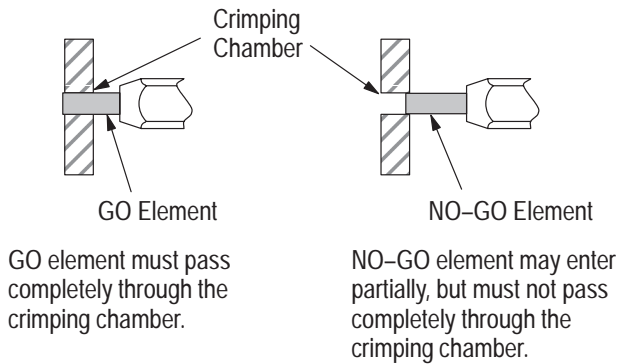

Figure 4
The die assembly is inspected before shipment. AMP recommends that the die assembly be inspected immediately upon arrival at your facility to ensure that the die assembly was not damaged during shipment and that it conforms to the dimensions provided in Figure 4.
2. Make certain all screws, retaining rings, and die components are in place. If replacements are necessary, refer to parts listed in Figure 4.
This inspection requires the use of plug gages conforming to the dimensions provided in Figure 4. AMP does not manufacture or market these gages. To gage the crimping chamber, proceed as follows:
3. Insert GO element into the crimping chamber; but do not force it. The GO element must pass completely through the crimping chamber. See Figure 4.
4. In the same manner, try to insert the NO-GO element into the crimping chamber. The NO-GO element may enter partially, but must not pass completely through the length of the crimping chamber. See Figure 4.
- Removed 'connector' part numbers, and added die closure configurations to Figure 4